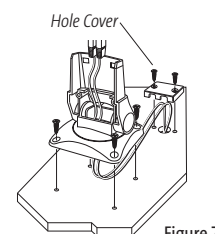
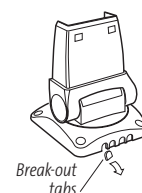

Figure 7
Figure 8
- 1b. If the cables cannot be routed directly beneath the mounting bracket, mark and drill a 1" (25 mm) hole that will allow you to run the cables close to the bracket. Pass the cables through the 1" (25 mm) hole, through the mounting base, and out of the top of the mounting bracket (Figure 7). Using needle-nose pliers, break out the tabs on the rear of the mounting base (Figure 8). Place the Hole Cover over the mounting surface hole, then use it to mark the position of the two mounting screws. Remove the Hole Cover, drill the two mounting holes using a $\frac{9}{64}$ " (3.5 mm) bit, fill them with marine-grade silicone, then replace the Hole Cover and insert the #8 Phillips countersink wood screws. Hand-tighten only.